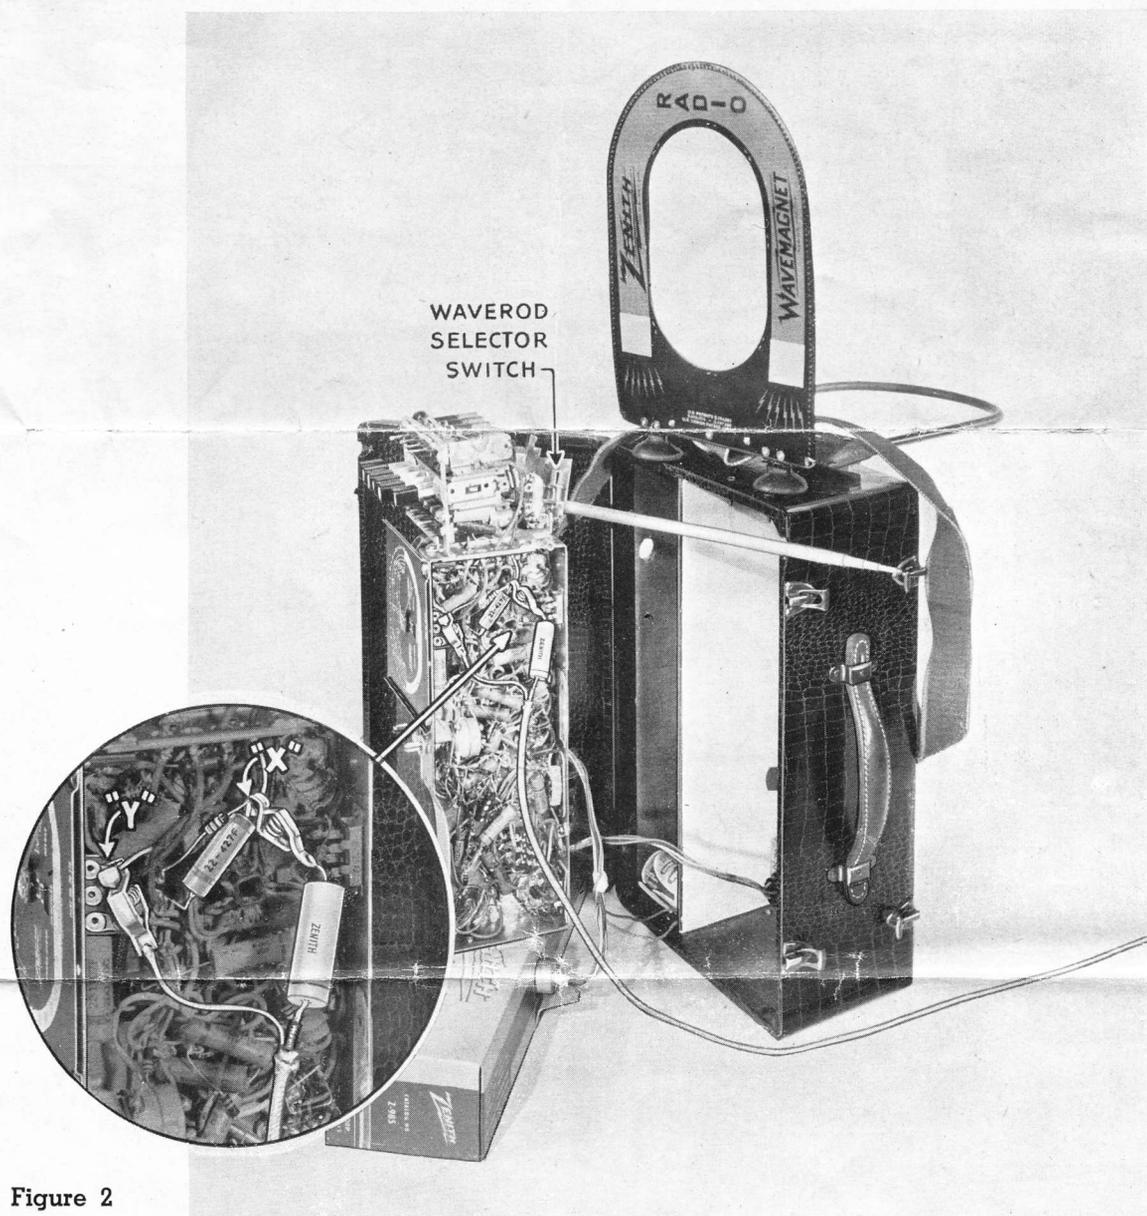

Figure 2
Place the chassis in the position illustrated in figure 2 and connect the Wavemagnet, speaker and battery plugs. The receiver should now be ready for Alignment on BATTERY POWER.
**CONNECTING THE GENERATOR:** Connect the antenna terminal of the signal generator through a .1 mfd. condenser to the converter grid at the junction of the 150,000 ohm resistor and the .02 mfd. condenser C11 (point "X," figure 2). Connect the generator ground lead to the 1LA6 No. 8 filament lead at the standoff insulator (point "Y," figure 2). Connect an output meter across the voice coil (Green and Black wires of the speaker plug). Align the I.F. trimmers A, B, C and D for maximum response as outlined in the alignment instructions.
The Waverod selector switch (see figure 2) may be locked in position for Waverod or Wavemagnet operation during alignment by inserting a screw in the switch plunger opening.